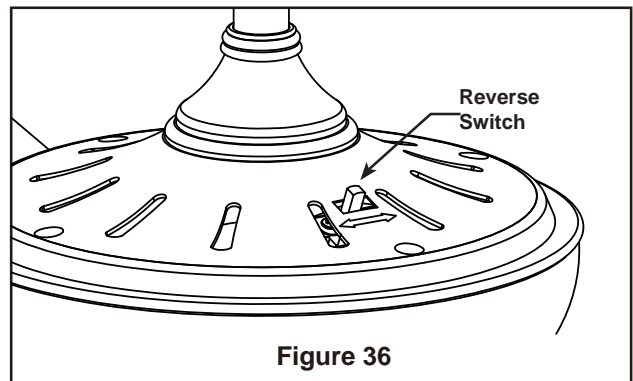

Figure 36
5. If airflow is desired in the opposite direction, turn the fan off and wait for the blades to stop turning. Then slide the reverse switch on top of motor assembly to the opposite position and turn fan on again (Figure 36).